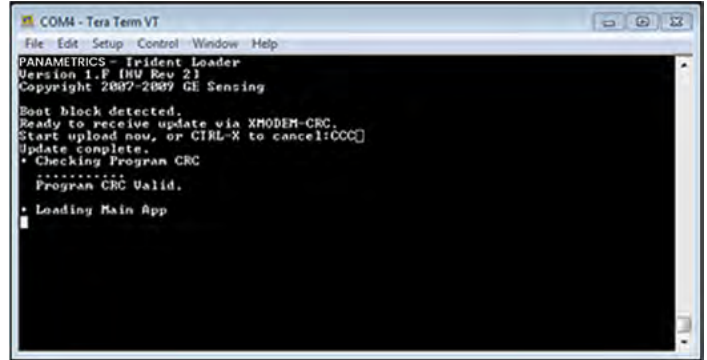

Figure 81: Update complete message in Tera Term
7. After the file transfer is complete, the *Tera Term* terminal window will appear as in *Figure 81* on page 81, and the meter will start up.